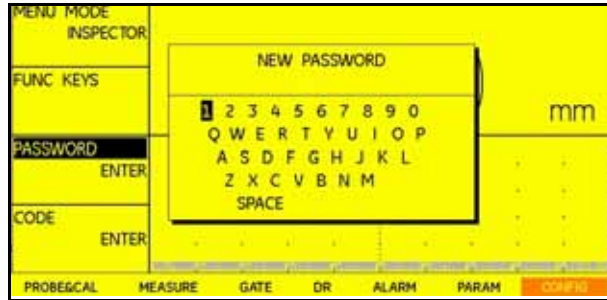

Figure 17: Password Function Window
2. Use the joystick (🕹️) to select the PASSWORD function, and toggle it (🔑) to open the password window (Figure 17 below).